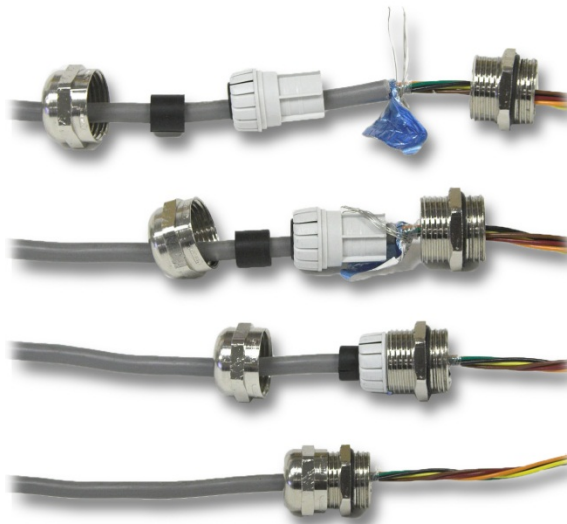

Figure 3-7: Shield Termination at Cable Gland
- All cables that include shields (except the current loop interface cabling) should have the shield terminated at the gland as shown in Figure 3-7. Spread the shield wires out and make sure enough shield wire is present to make good contact with the metal part of the gland.